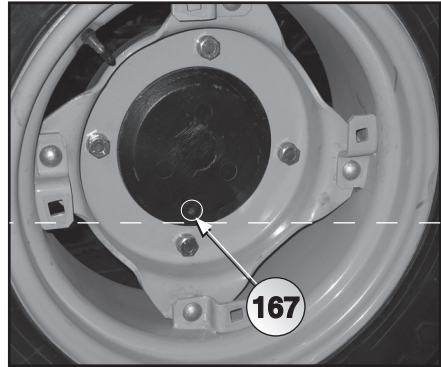
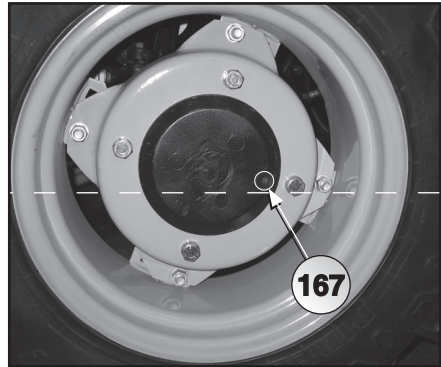

Fig. 6.42
Fig. 6.43
- Position the tractor so that the plug (167 Fig. 6.42) is at the lowest point of the tractor itself.
- Remove the plug (167) and let all of the oil in the reduction gear drain out.
- Position the tractor so that the plug (167 Fig. 6.43) is on the horizontal center line of the tractor itself.
- Replenish the case with **AGIP ROTRA JD/F oil** (0.8 Kg RS-RS/MT-DS tractor) up to the edge of the plug (167).
- Then replace the plug (167).